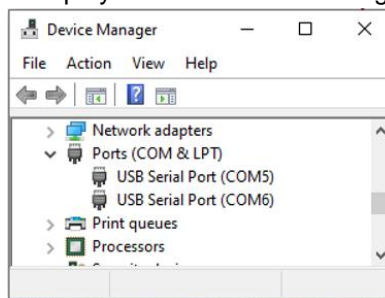

Figure 23: Windows - COM ports
- On Windows, two COM ports are displayed in the device manager (see Figure 23).
The lower numbered COM port (COM5 in Figure 23) is for the DA16600 debug interface. The higher numbered COM port is for the DA16600 AT command interface.